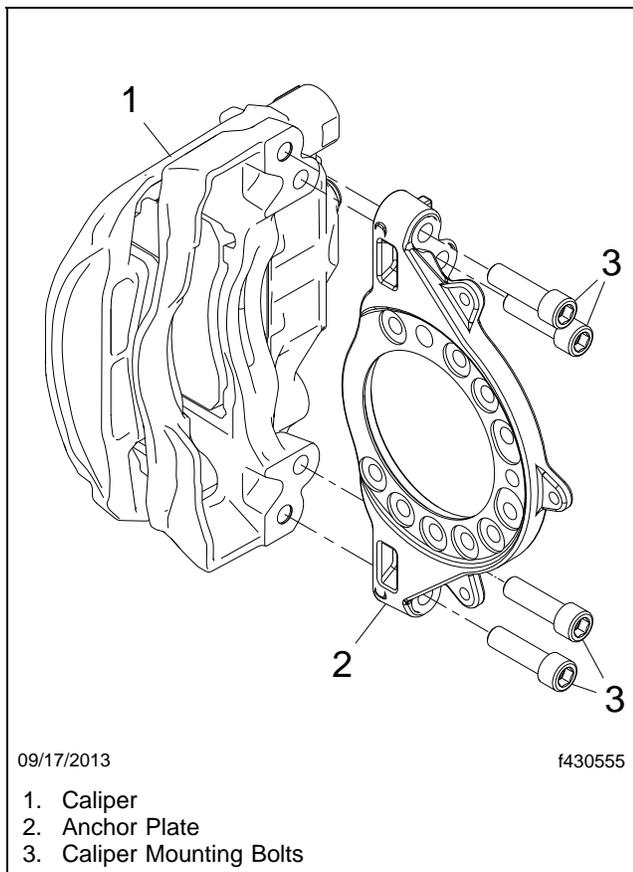
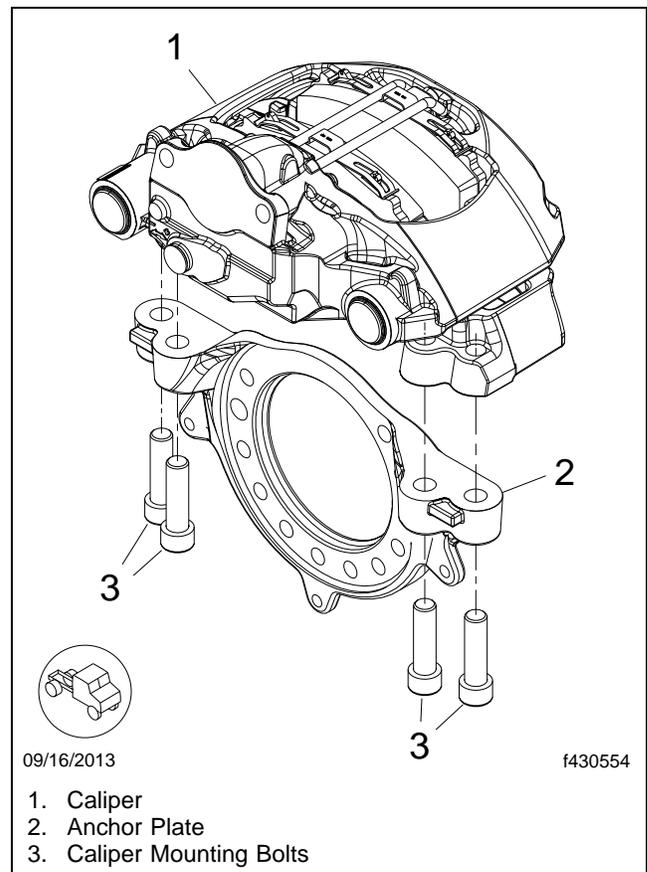

Fig. 1, Front Caliper Bolt Installation
Fig. 2, Rear Caliper Bolt Installation
6. Check the torque on the caliper mounting bolts. See **Fig. 1** for front calipers and **Fig. 2** for rear calipers.